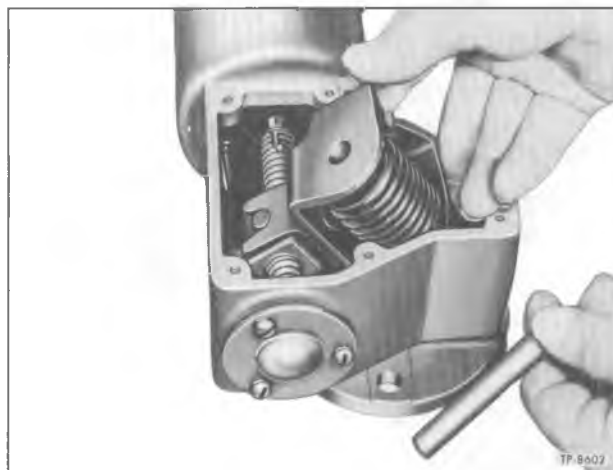
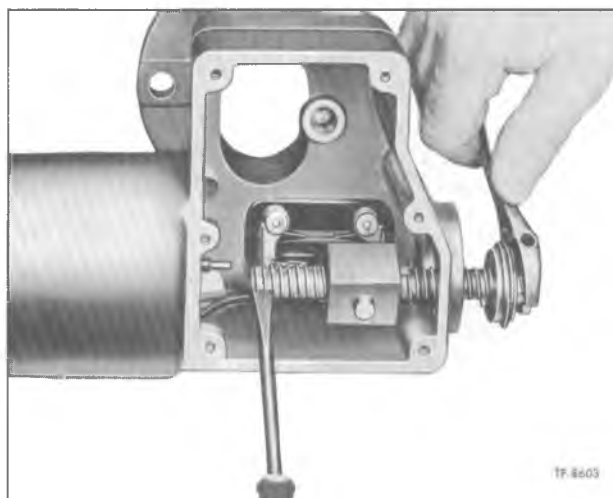

Figure 13—Removing Shaft, Actuating Lever, and Spring
Figure 14—Removing Drive Screw Bearing
an assembly by pulling shaft (21) up. Swing the assembly away from the drive nut and lift out of the housing (fig. 13).
5. Remove three screws and lock washers (16) which attach bearing cover (15). Remove cover and gasket (14).
6. Push down on drive screw assembly (20) until bearing assembly (12) is free of housing.
7. Insert screwdriver in drive slot of screw (fig. 14), then remove bearing lock nut (13) and bearing with snap ring (12). Drive screw assembly (20) can then be lifted out of housing.
1. Remove three screws and lock washers (16) which attach bearing cover (15) to bottom of shift unit housing. Remove cover and gasket (14).
2. Push down on drive screw assembly (20) until bearing assembly (12) is free of housing.
3. Insert screwdriver in drive slot of screw (fig. 14), then remove bearing lock nut (13) and bearing with snap ring (12). Drive screw assembly (20) can then be lifted out housing.